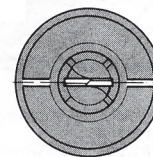

fig 11
- Remove the turret from the holder and check that the bit cutting edges are correctly aligned with the turret nose index marks (see fig 11). If the position is not correct, **slightly** loosen the nut and **carefully** turn the tip to the required position, without altering the amount it protrudes through the nose of the turret.